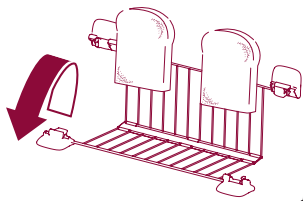

Fig. 13
- 1 Open the rack by pressing the two handles. Insert one or two sandwiches (fig. 13).